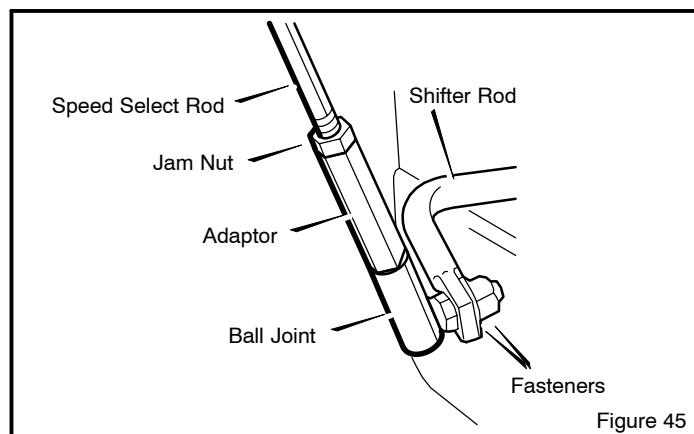

Figure 45
2. Loosen hex **jam nut** on **speed select rod**. Remove **ball joint** from **shifter rod** (see Figure 45).
4. Turn the **adaptor** until the **ball joint** is aligned with the mounting hole in the **shifter rod** (see Figure 45). When aligned, attach the **ball joint** to the **shifter rod**.